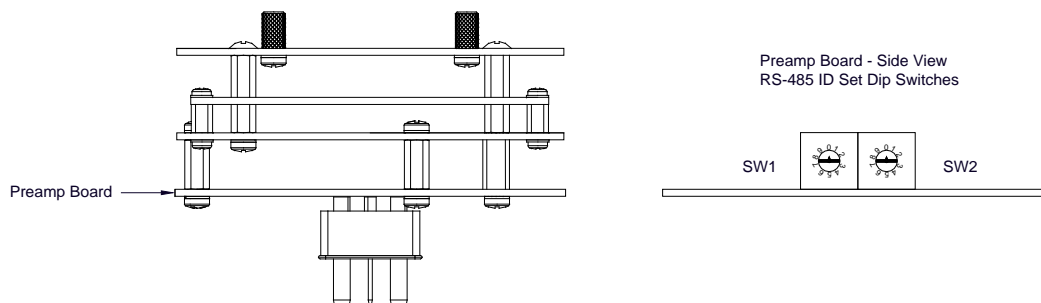

Figure 10 Control Circuit
- f) If applicable, set the RS-485 ID number via the two rotary dip switches located on the pre-amp board (see Figure 10). There are 256 different ID numbers available which are based on the hexadecimal numbering system. If RS-485 communications are used, each sensor must have its own unique ID number. Use a jeweler's screwdriver to set the rotary dip switches according to the table listed on the following page. If RS-485 communications are not used, leave the dip switches in the default position which is zero/zero (0)-(0)